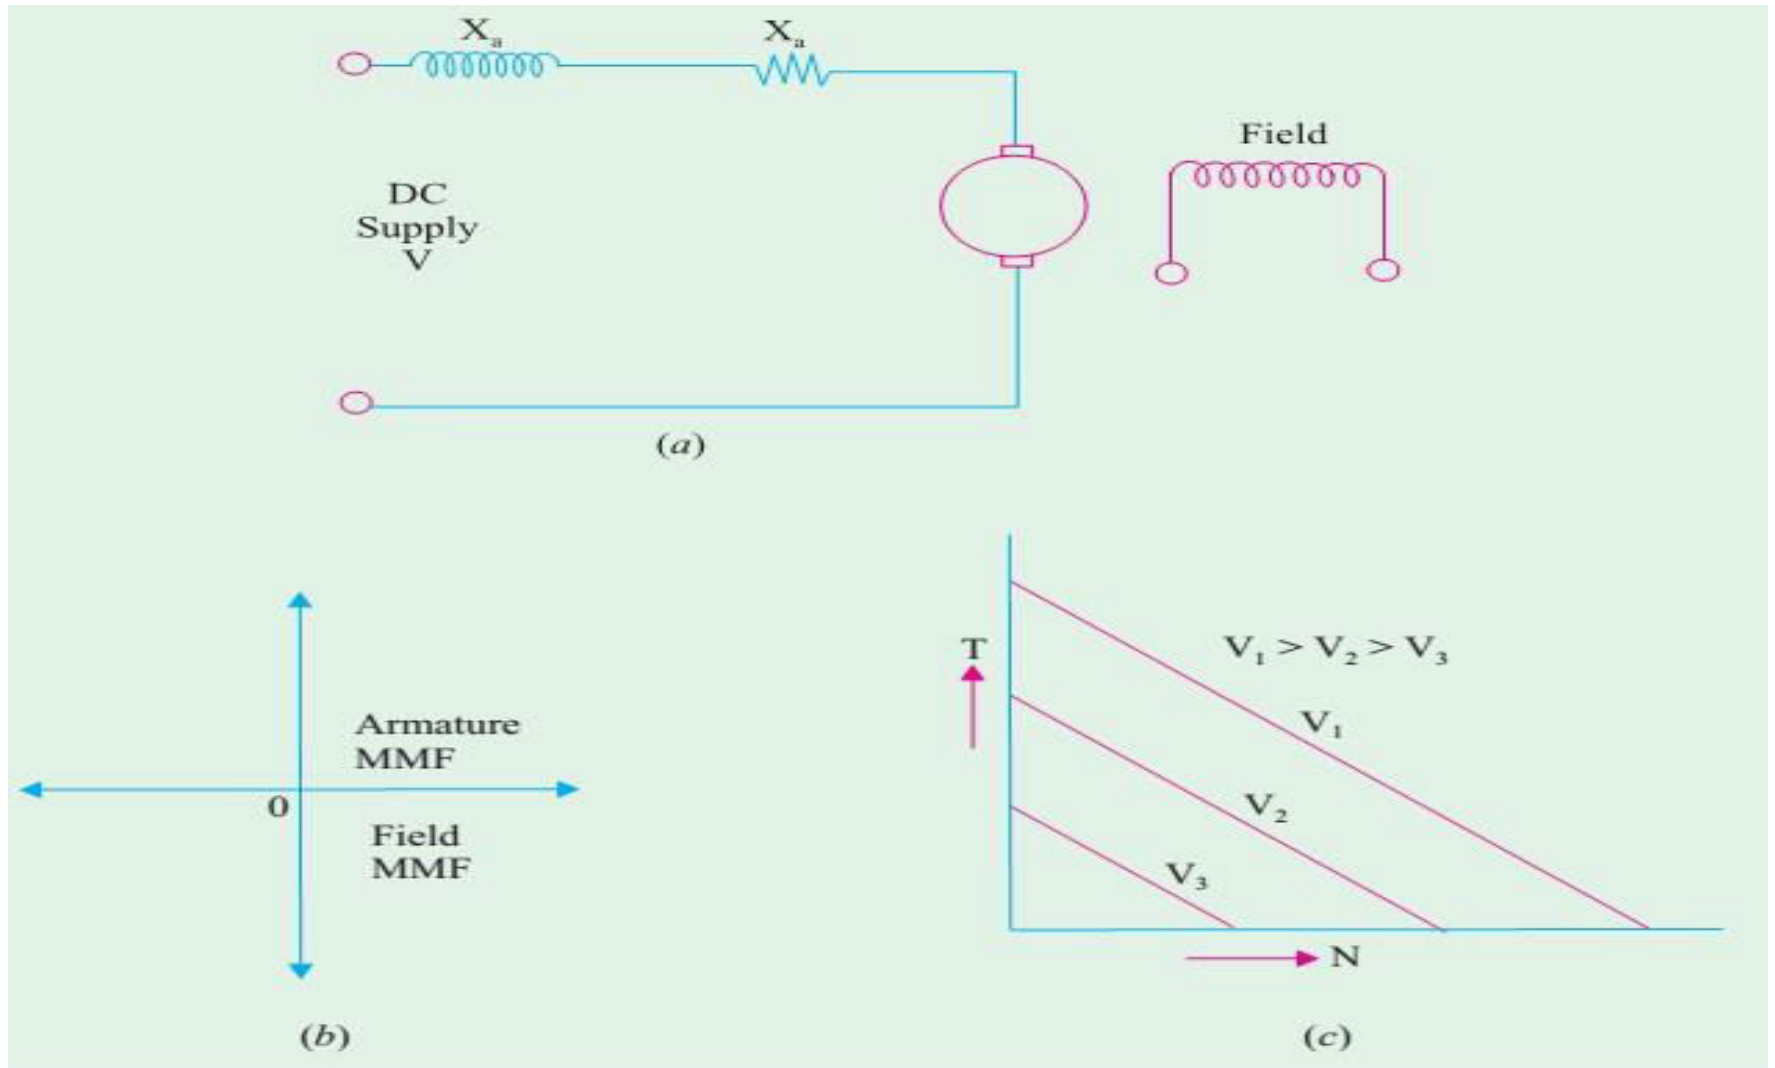

Fig. 39.26
- The schematic diagram of a separately-excited DC motor along with its armature and field MMFs and torque/speed characteristics is shown in Fig. 39.26. The speed of DC servomotors is normally controlled by varying the armature voltage. Their armature is deliberately designed to have large resistance so that torque-speed characteristics are linear and have a large negative slope as shown in Fig. 39.26 (c). The negative slope serves the purpose of providing the viscous damping for the servo drive system.
- As shown in Fig. 39.26 (b), the armature mmf. and excitation field mmf are in quadrature. This fact provides a fast torque response because torque and flux become decoupled.